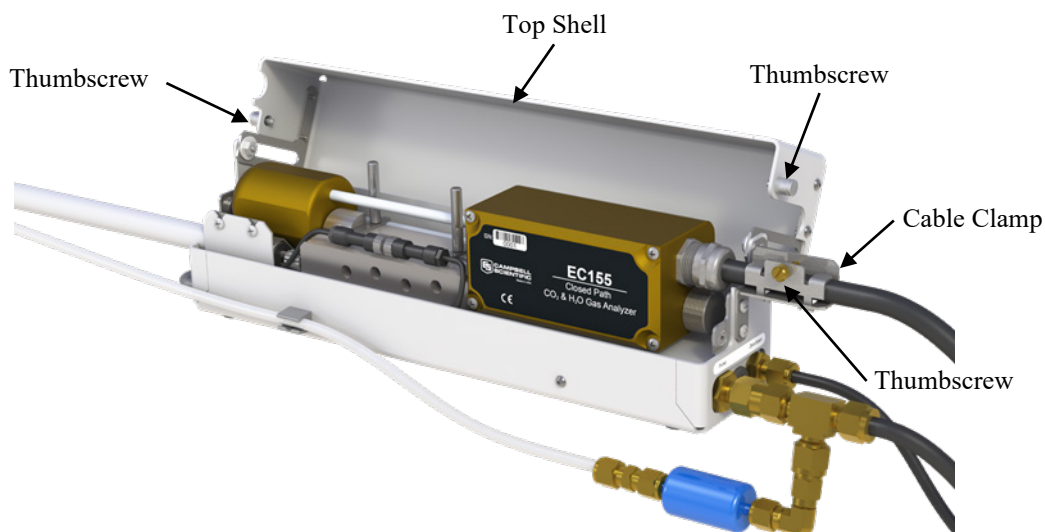

FIGURE 9-6. The EC155 analyzer with the top shell open
2. Loosen the two captive thumbscrews (one on each end of the EC155), and lift the top portion of the EC155 shell, leaning it back against the lower shell. See FIGURE 9-6.